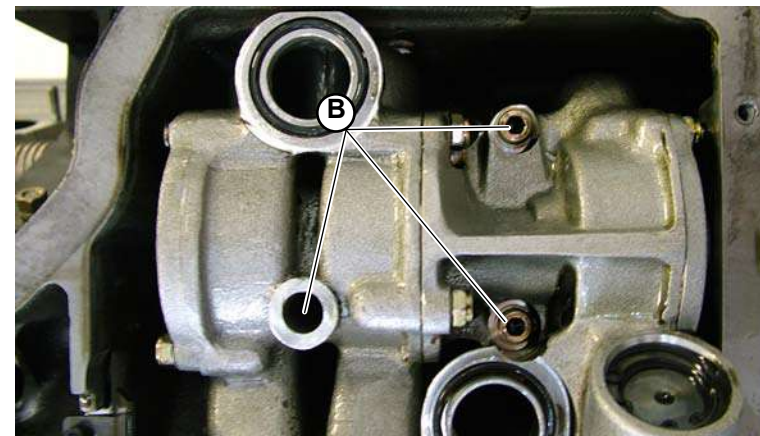

Fig.3
3. Unscrew the 2 socket head screws and the hexagonal-head screw (B-Fig.3) which mount the oil pump to the lower part of the crankcase.